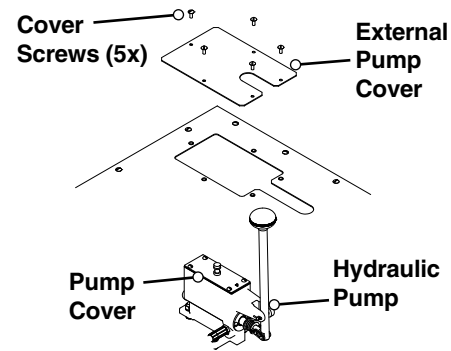

Figure 3: Hydraulic pump access
3. Remove the five screws that secure the external pump cover to the top (Fig. 3). Lift the cover off and look for oil leaks. Report any leaks found to Gilson. If none, reinstall the cover and proceed.
1. Remove the five screws that secure the external pump cover to the top, then lift the cover off (Fig. 3).